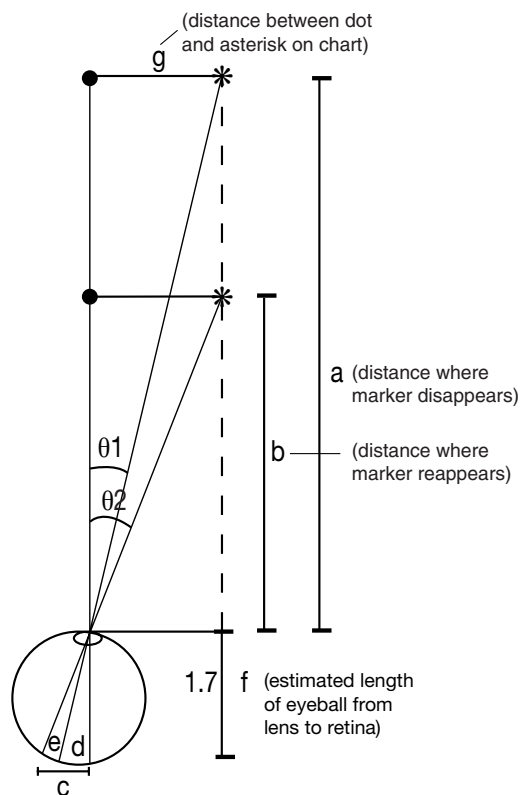

Figure 2. Geometry of blind spot calculation
1. Obtain a Blind Spot Visual Chart. Use a ruler to measure the distance between the dot and asterisk. This is distance **g** in Figure 2.
3. Have your lab partner hold a meter stick along the side of your head as you determine where the marker disappears and reappears as you view the Blind Spot Visual Chart. Stop moving the chart when the marker disappears and have your lab partner measure from the front of your eye to the chart. This measurement is distance **a** in Figure 2. Then measure the distance from your eye to the chart when the marker reappears. This is distance **b** in Figure 2.
6. Use the measurements and the diagrams in the Discussion section to calculate the width of your blind spot, labeled **e** in Figure 2.
The size of the blind spot will vary from individual to individual. The calculation for the width of the blind spot is only an estimate based upon some basic geometry and several assumptions. Two methods are shown below for calculating the size of the blind spot. Refer to Figure 2 for the following formulas and calculations.
The distance of the blind spot is shown as **e** in Figure 2. Both distances **d** and **c** can be calculated using similar triangles and the measured distances **a** and **b**. The blind spot (**e**) can be calculated as: